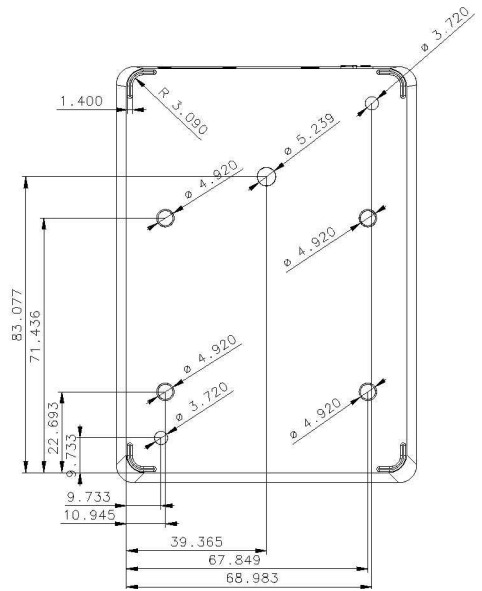

FIGURE 2 - SCREW HOLE MOUNTING
4. Mount the transducer (see Figure 2). Position transducer vertically.